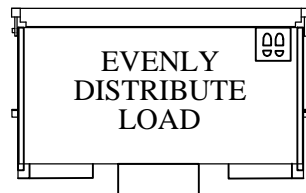

Figure 6: Step 8.
- Step 8. To load and use the railgate, evenly distribute the load on the platform (Figure 6). Gas bottle rack fences and chains are provided to help secure the load.
- D. Stand in the area indicated by the footprints in the figure below (Figure 6), keeping hands and feet away from the edges and any moving parts.